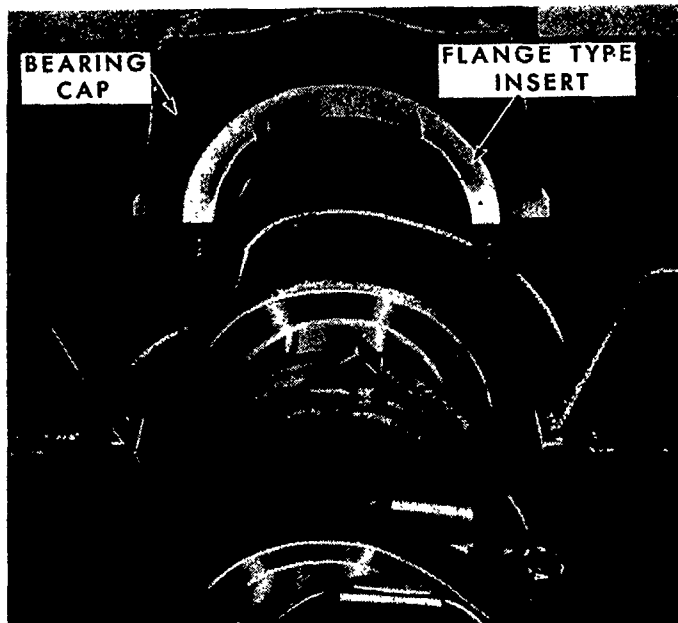

Figure 69
5. After the bearing clearances have been measured, apply a light coat of engine oil to the journals and bearings. Install the thrust bearing cap with the flange-type bearing liner, Figure 69, first. Then, install all main bearing caps except the rear cap. Be sure they are installed in their original location.
6. Install the thrust bearing cap, Figure 69, with the bolts finger tight, then pry the crankshaft forward against the thrust surface of the bearing. Hold the crankshaft forward and pry the bearing cap to the rear. Be careful not to pry against the flange of the bearing liner. This will align the thrust surfaces of both halves of the bearing. Hold the forward pressure on the crankshaft and tighten the bearing cap bolts to the specified torque, page 68.